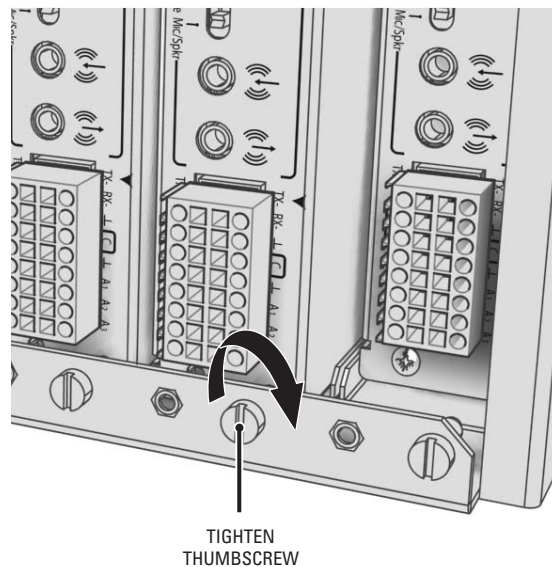

Figure 10. Tighten Thumbscrew to Secure the Unit
3. Tighten the thumbscrew on the rack mount to secure the unit into the rack (refer to Figure 10).